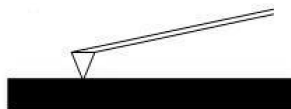

Figure 9.2.2 Schematic diagram of probe and surface interaction in contact mode.
Atomic force microscopy (AFM) is a high-resolution form of scanning probe microscopy, also known as scanning force microscopy (SFM). The instrument uses a cantilever with a sharp tip at the end to scan over the sample surface (Figure 9.2.1). As the probe scans over the sample surface, attractive or repulsive forces between the tip and sample, usually in the form of Van Der Waal forces but also can be a number of others such as electrostatic and hydrophobic/hydrophilic, cause a deflection of the cantilever. The deflection is measured by a laser (Figure 9.2.2) which is reflected off the cantilever into photodiodes. As one of the photodiodes collects more light, it creates an output signal that is processed and provides information about the vertical bending of the cantilever. This data is then sent to a scanner that controls the height of the probe as it moves across the surface. The variance in height applied by the scanner can then be used to produce a three-dimensional topographical representation of the sample.
The contact mode method utilizes a constant force for tip-sample interactions by maintaining a constant tip deflection (Figure 9.2.2). The tip communicates the nature of the interactions that the probe is having at the surface via feedback loops and the scanner moves the entire probe in order to maintain the original deflection of the cantilever. The constant force is calculated and maintained by using Hooke's Law, 9.2.2. This equation relates the force (F), spring constant (k), and cantilever deflection (x). Force constants typically range from 0.01 to 1.0 N/m. Contact mode usually has the fastest scanning times but can deform the sample surface. It is also only the only mode that can attain "atomic resolution."